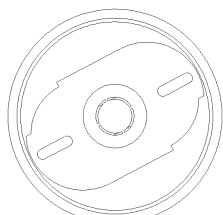

FIGURE 7
2. Remove the mounting bracket from the detector by rotating it counterclockwise. (FIGURE 7)